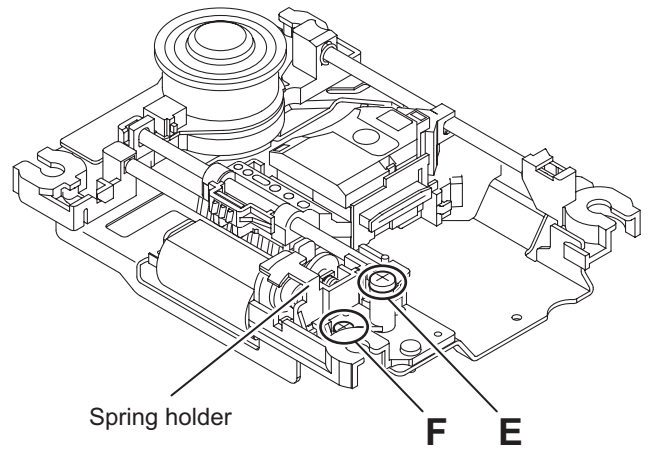

Fig.8
(2) Remove the screw **E** and **F** attaching the spring holder. See Fig.8)